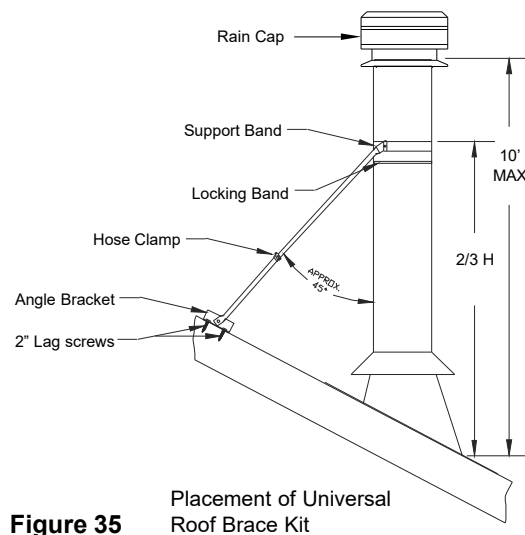

Figure 35
- Position the Support Band approximately two thirds of the way up the chimney height (see Figure 35). The preferred location is next to a joint, immediately above or below a Locking Band. Secure Support Band by tightening the 2" bolt. NOTE: Only one chimney joint should be above a Roof Guy Kit. An additional Roof Brace Kit may be required for taller systems.